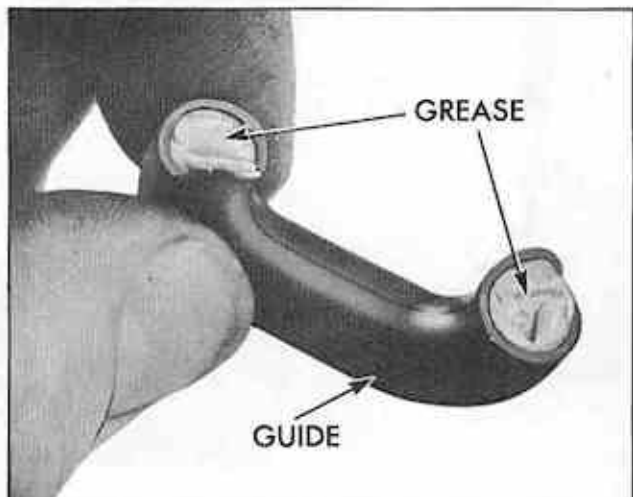
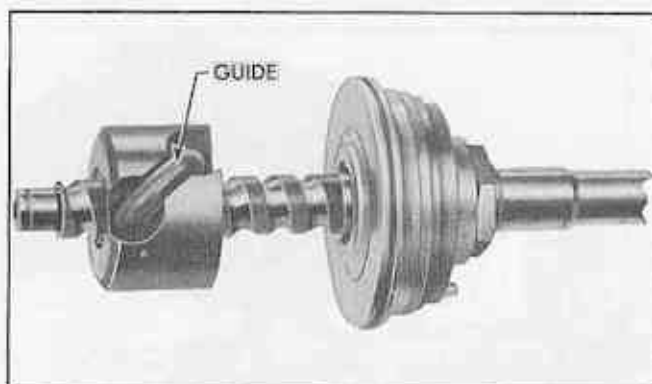

Fig. 73 Ball Return Guide
Fig. 74 Ball Guide in Place in Ball Nut
4. Fill one-half of ball return guide with remaining 6 balls. Place other half of guide over balls and plug each end with heavy grease to prevent balls from falling out when installing guide into ball nut (Fig. 73). Push guide into guide holes in ball nut (Fig. 74). If the guide does not push down easily, tap guide lightly with a soft hammer to seat it. Wrap a strip of tape around ball nut and guide to prevent the guide from falling out.